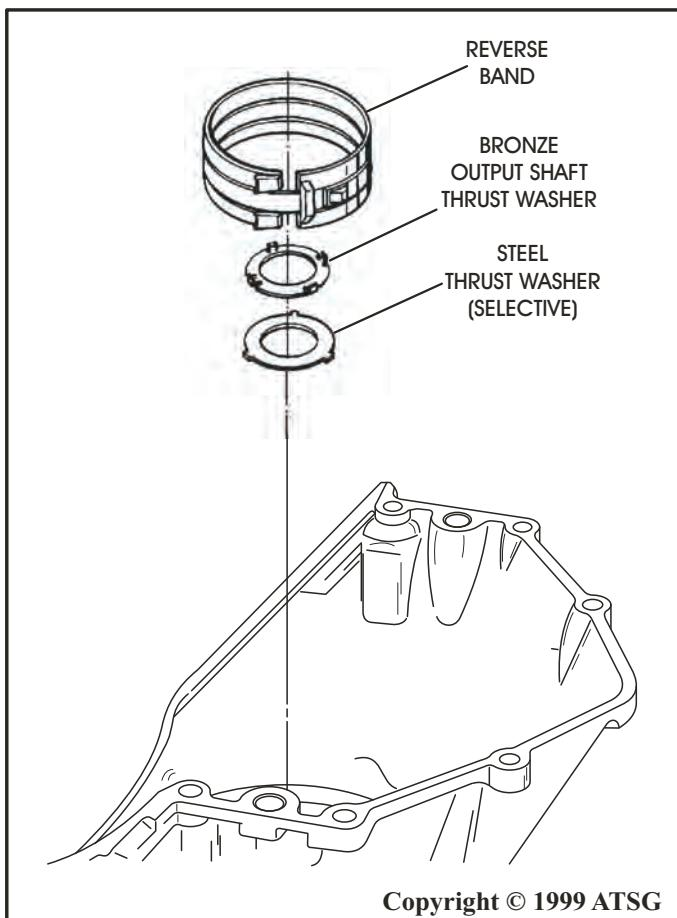

Figure 53
60. Remove the reverse band assembly from the transmission case, as shown in Figure 53.
61. Remove the bronze output shaft thrust washer from the case, if it is not stuck on the output shaft (See Figure 53).
62. Remove the steel **selective** thrust washer from the back of case, as shown in Figure 53.